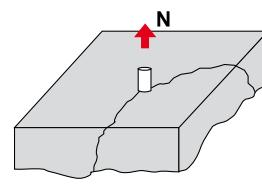

fig.19
- Splitting failure (fig.19): where the concrete fails due to splitting of the element along the "h" thickness.